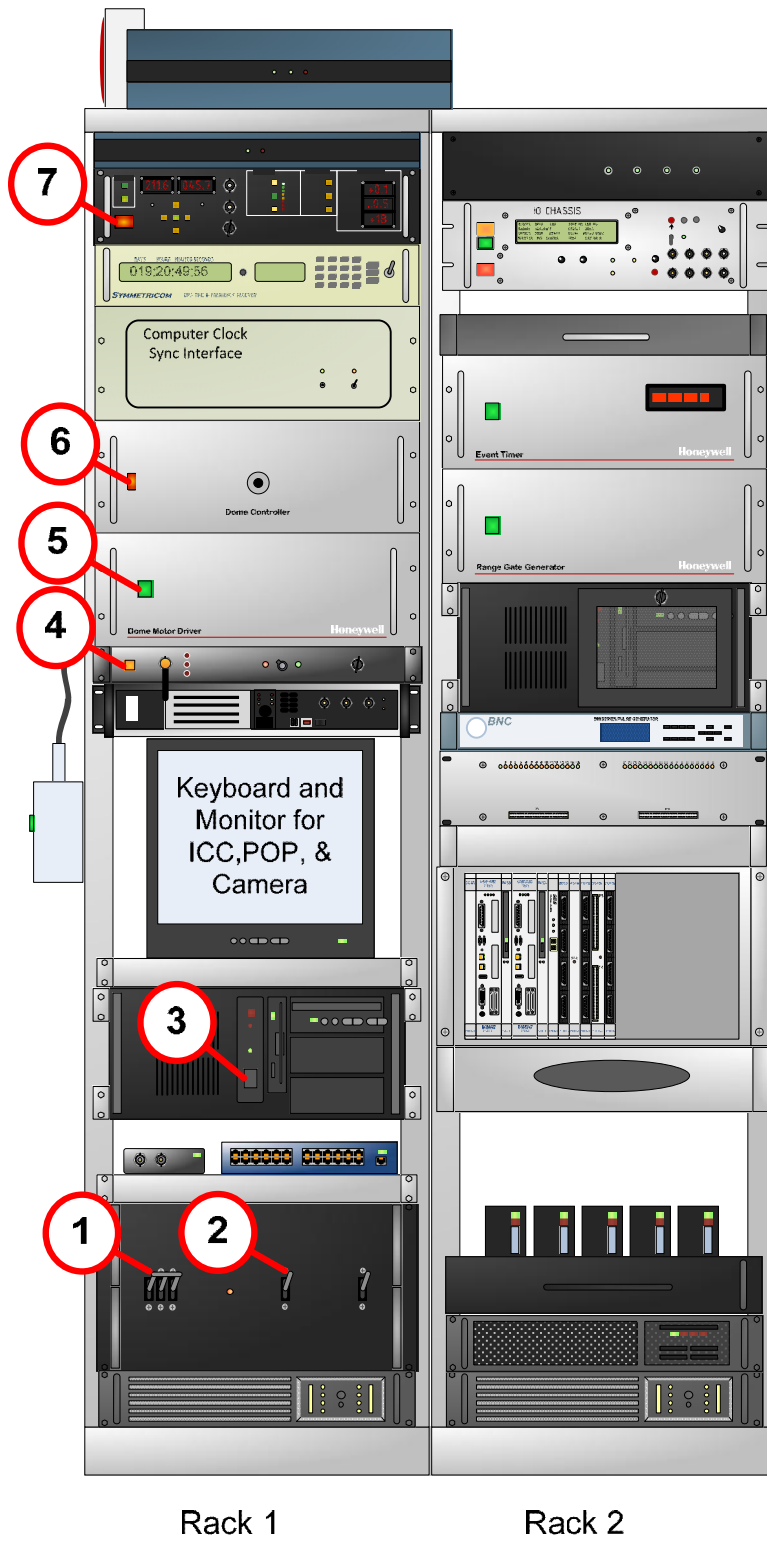

Figure 3-3: Power up sequence
1. **Power up each device in the rack in the order shown on Figure 3-3**